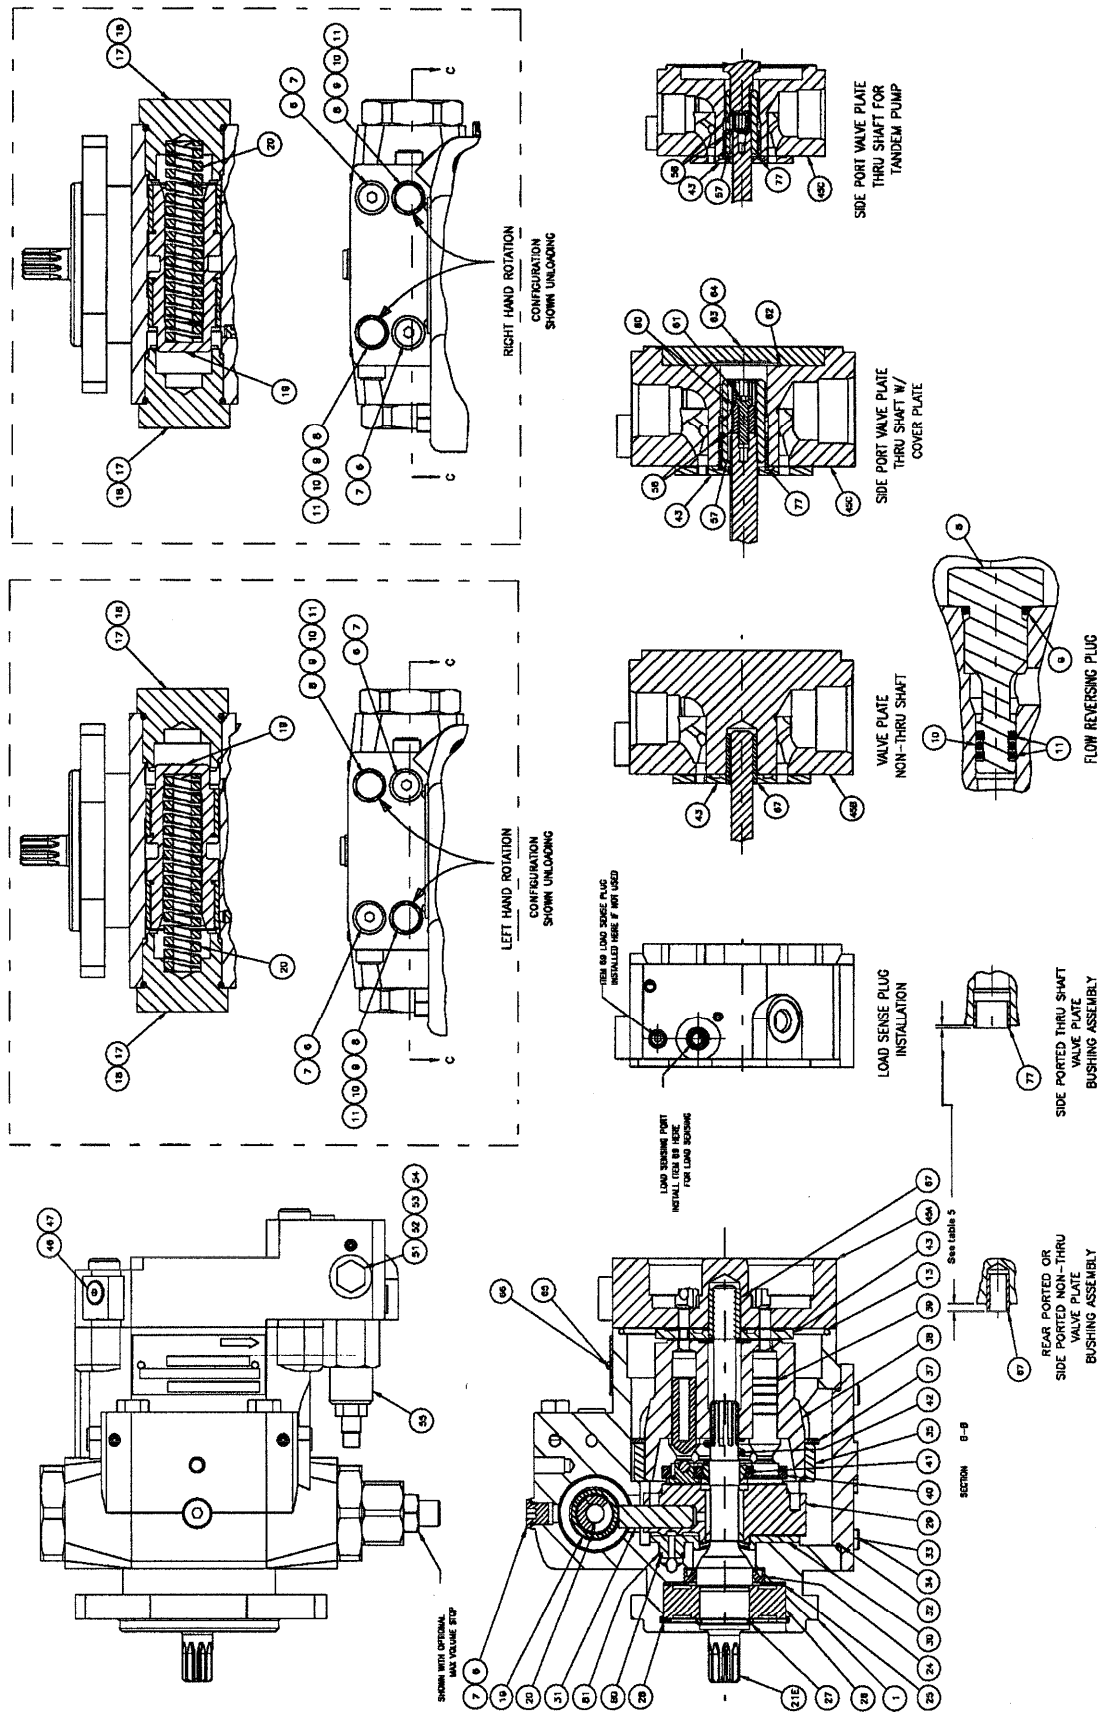

Figure 8. Cross Section and Plan View Parts Drawing
1. The position of the two flow reversing plug assemblies (8, 9, 10 & 11) and the two SAE plugs (6) with o'rings (7) will have to be interchanged. See illustrations (parts of Figure 8) for proper positions for either left hand or right hand rotation.
2. Reverse the orientation of the control piston (19) and control piston spring. See illustrations (parts of Figure 8) for proper positions for either left or right hand rotation. Also note that if an optional maximum volume stop assembly (70, 71, 72, 73, 74, 75, 76 & 18) is used, it will have to be switched with control end plug assembly (17 & 18).
3. The valve plate assembly (45) will have to be removed and the port plate (43) replaced with a port plate manufactured for the new rotation direction.
4. The type designation on the unit's nameplate (65) will have to be changed accordingly.